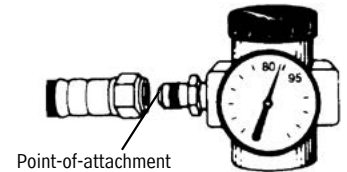

Figure 2
- Adjust the air pressure at the point-of-attachment (**Figure 2**) to within the approved pressure range. See the Respirator Breathing Air Pressure table in the respirator user manual. If you do not have instructions, contact Bullard Customer Service at the address or phone numbers below. Manuals may be downloaded from the Resource page at www.bullard.com.